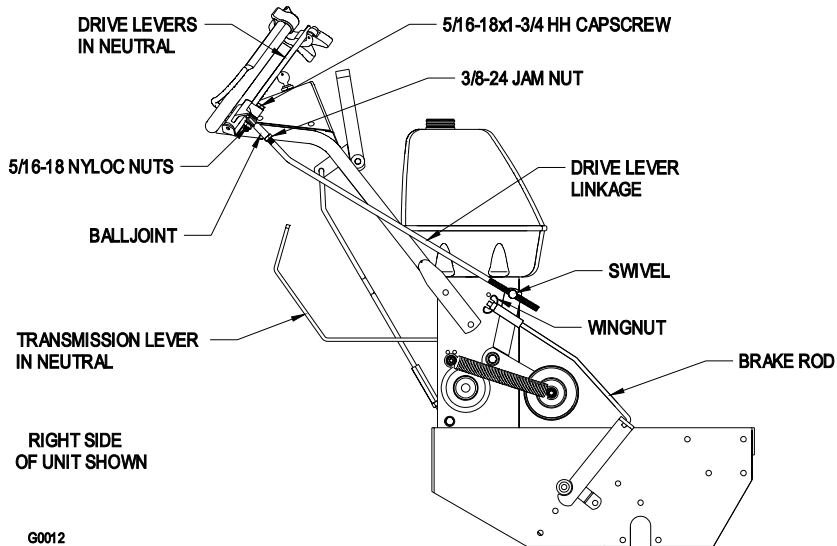

FIGURE 7
Thread the linkage into the swivel located on the wheel drive idler arm. Thread in until the flat edge of the drive lever aligns with the bottom of the roller notch in the neutral lock/park brake latch when the cap screw is inserted through the hole in the drive lever and the hole in the ball joint. Secure with a nyloc nut. Tighten nyloc nut. Repeat for the other side. See figures 7 and 8.
- c) Adjust brakes by adjusting wingnut on the upper end of each brake rod. Tighten the wingnut until the brakes engage when the drive levers are squeezed enough allow the neutral lock/park brake latches to be placed into the "park brake" position. See Figure 7.